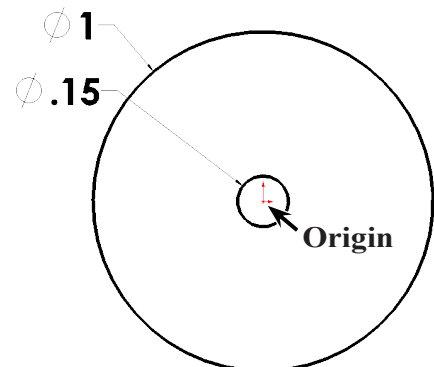

Fig. 2
Step 3. Click **Circle**  (S) on the Sketch toolbar.
Step 4. Sketch **two circles** starting at the Origin , **Fig. 2**.
Step 5. Click **Smart Dimension**  (S) on the Sketch toolbar.
Step 6. Dimension the circles, **Fig. 2**.